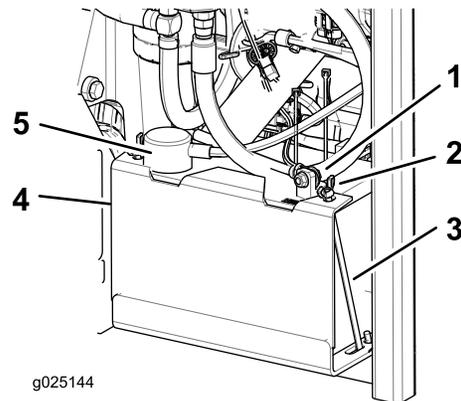

Figure 43
3. Disconnect the negative battery cable (black) from the negative (-) battery terminal (Figure 43).
4. Slide the red terminal boot off the positive (red) battery terminal and remove the positive (+) battery cable (Figure 43).
5. Remove the wing nuts securing the J-hooks (Figure 43).
6. Remove the clamp (Figure 43).
4. Secure the cables with 2 bolts, 2 washers, and 2 locknuts (Figure 43).
6. Install the clamp and secure it with the wing nuts and J-hooks (Figure 43).
1. Position the battery in the tray with the terminal posts opposite from the hydraulic tank (Figure 43).